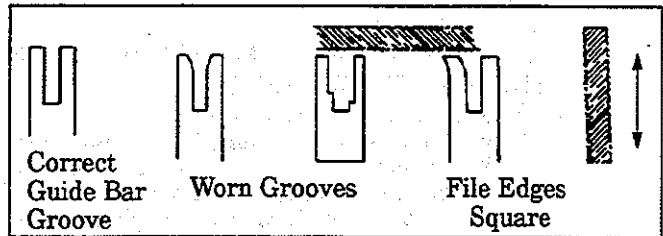

Figure 35
- d. Remove burrs by filing the side edges of the guide bar grooves square with a flat file. Figure 35.
- e. Square the edges of an uneven rail top by filing with a flat file. Figure 35.